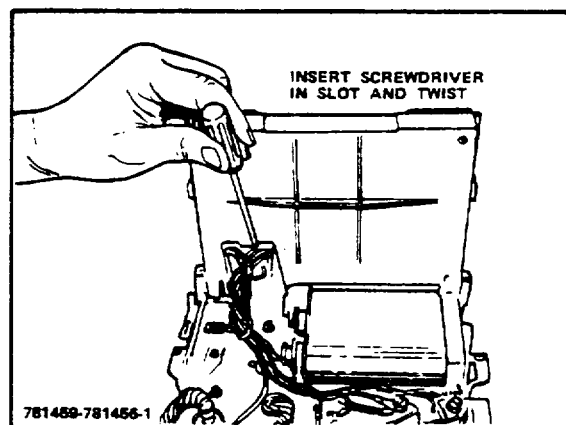

Figure 4-8. Card Wiring Plug (TB-2) Removal
- (2) Lift the oscillator card, and pry the wiring harness plug (TB-2) from the bottom of the card with a screwdriver (Fig 4-8).
- (3) Swing the card up 40°, and slide it out of its slotted hinges.